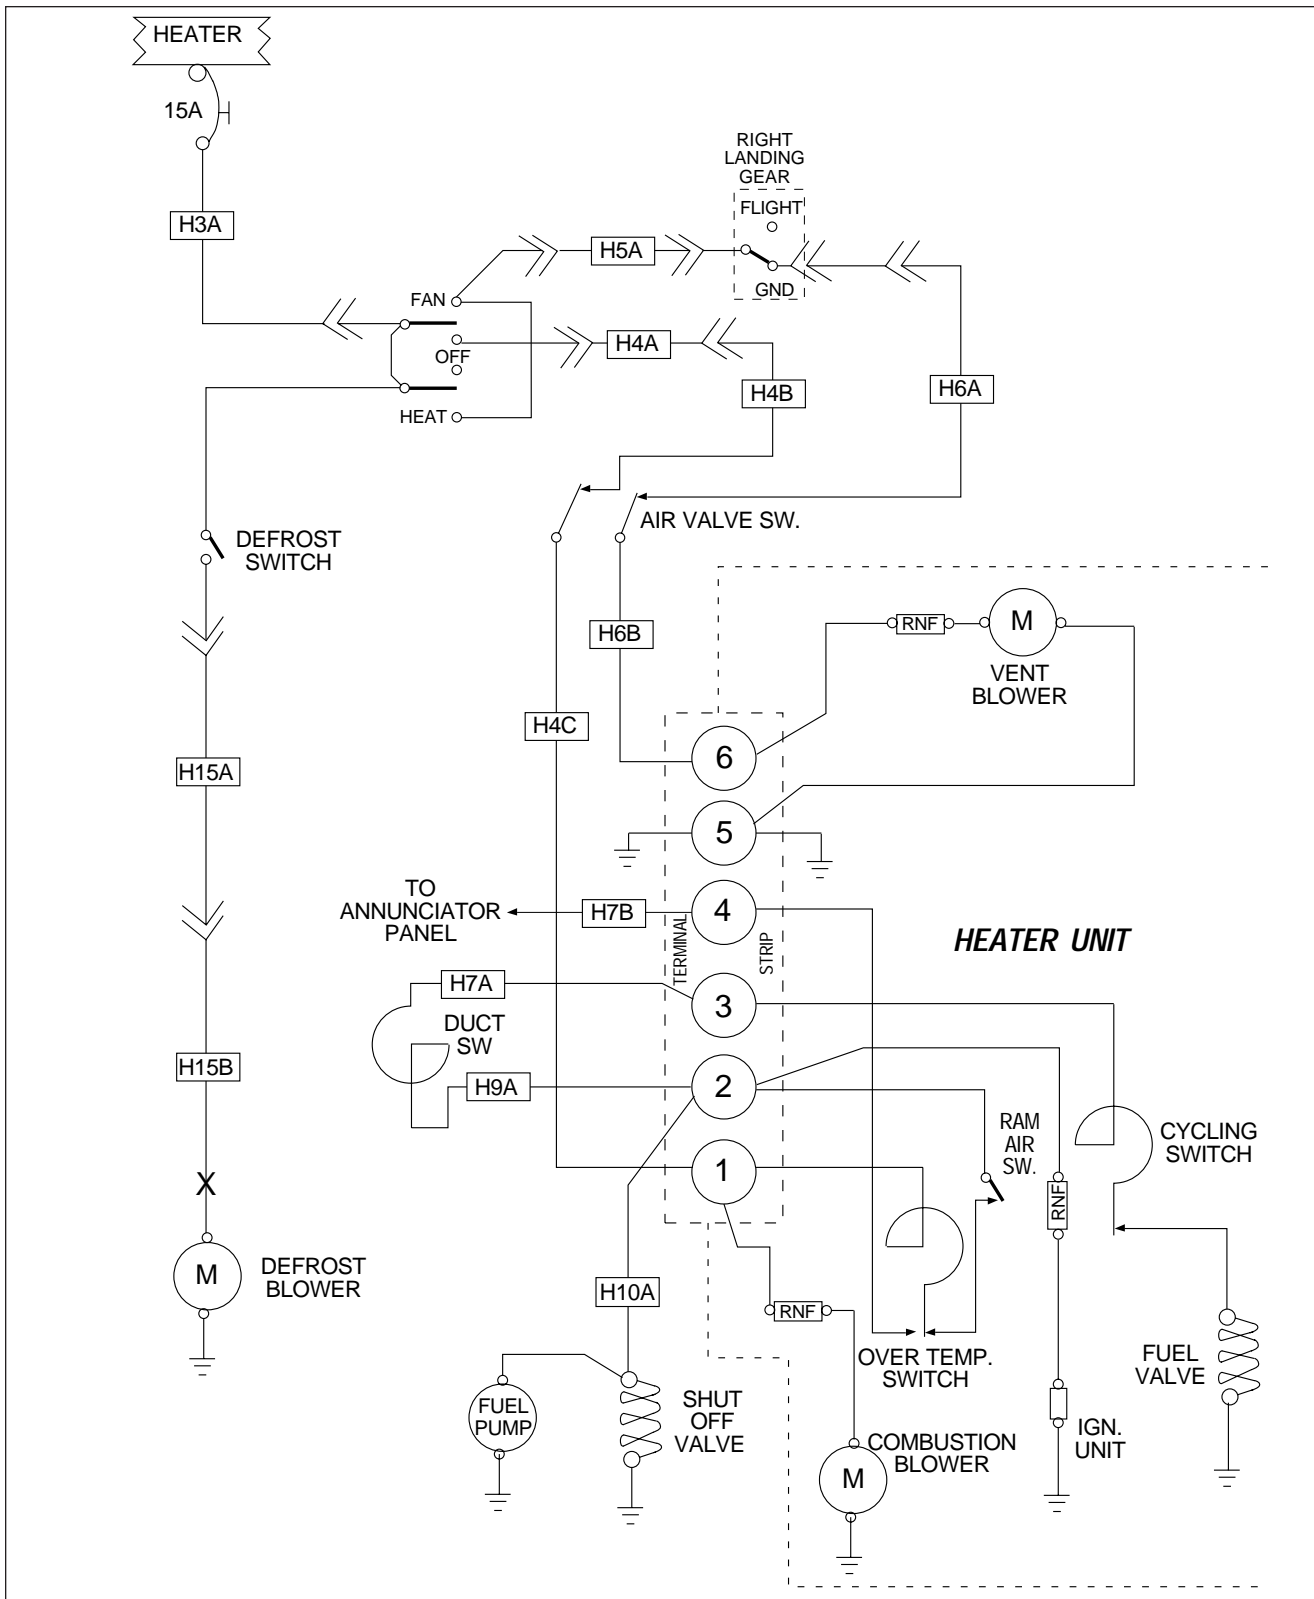

Figure 21-6. Seneca III (14 Volt System) Heater and Defroster Wiring Diagram
The schematic diagram (Figure 21-6 and 21-7) shows the heater circuit including the electrical wiring in the airplane.
The schematic wiring diagram (Figures 21-6 and 21-7) shows, in addition to the heater circuitry, the aircraft control circuit, for both 14 and 28 volt systems. For the purposes of this manual, the circuitry shown in these illustrations will be utilized to describe voltage checks.
1. With the HEATER SWITCH in the HEAT position, voltage should be present at the following locations: (Refer to Figures 21-6 and 21-7.)